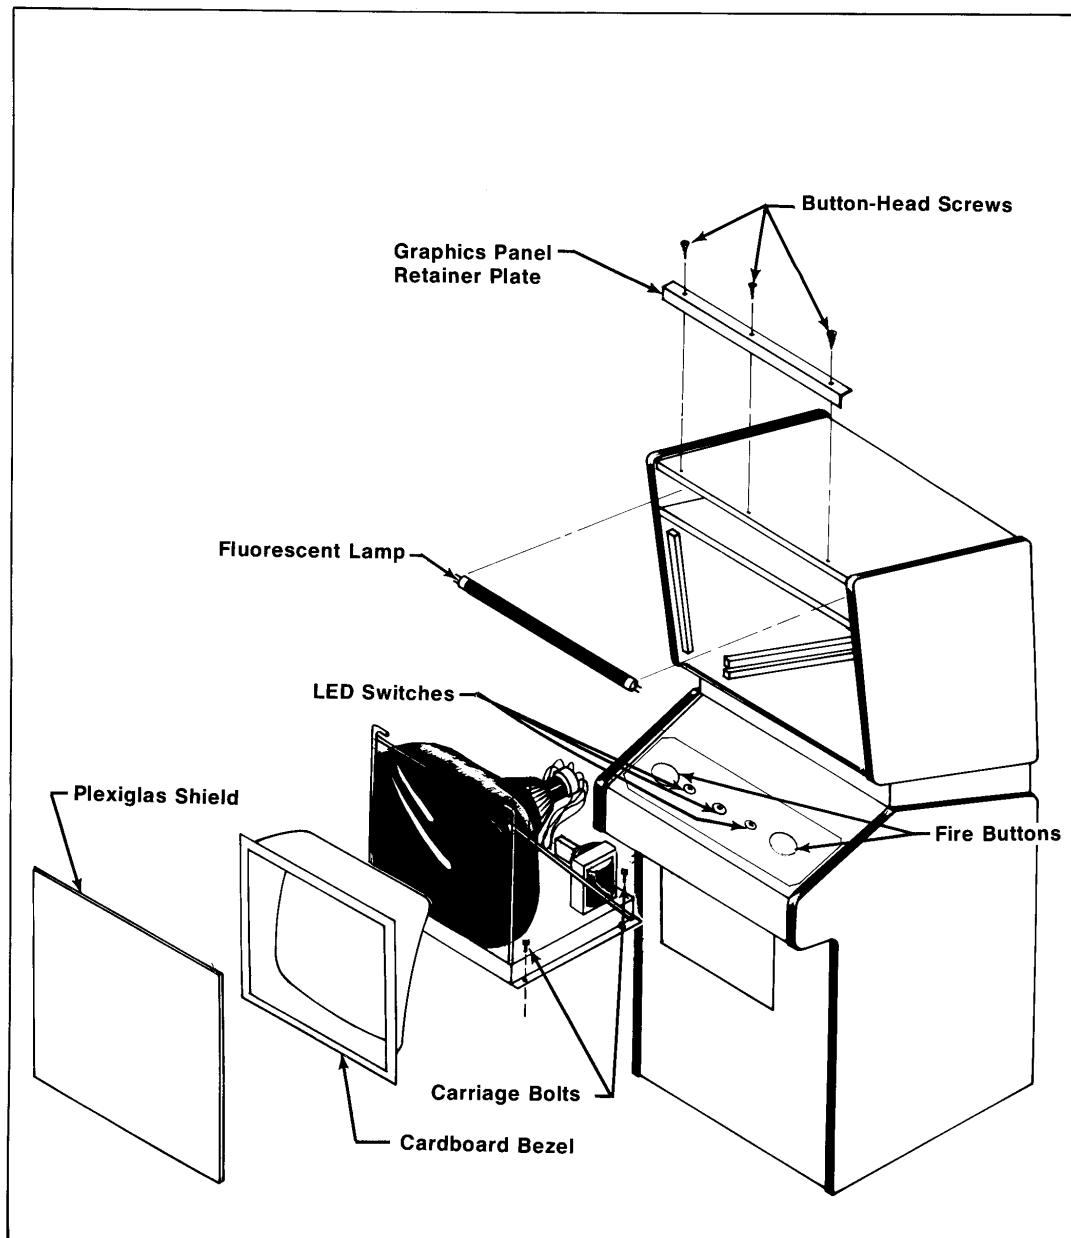

Figure 3-10 Lamp and TV Monitor Removal
Fluorescent Lamp Replacement Procedure (Refer to Figure 3-10)
Procedure (Refer to Figure 3-10)
E. TV MONITOR REMOVAL (Refer to Figure 3-10)